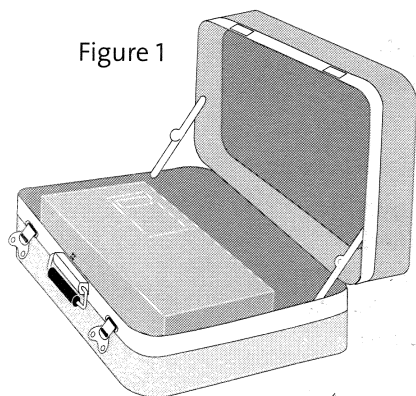

Figure 1
1. Redi-Flo Variable Frequency Drive, (See Figure 1)